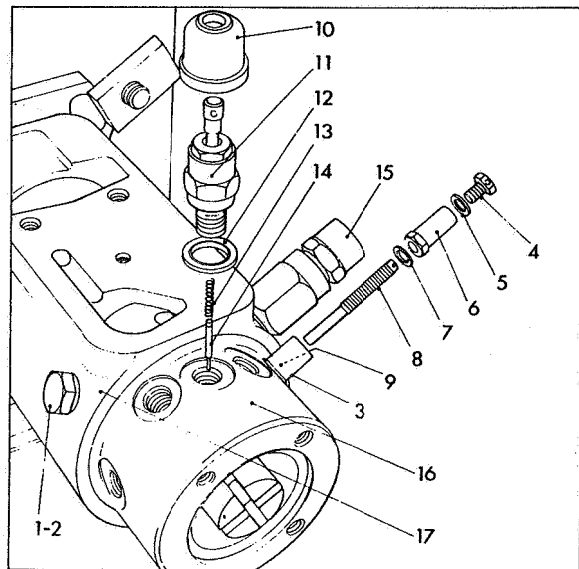

Fig 74 Dismantling shuttle valve assembly
Note location of, then unscrew and remove, the head locking screw and washer (1 & 2) Fig 74. Unscrew and remove from the shuttle valve body (3): shuttle plug screw (4), screw plug washer (5), shuttle tubular nut (6), tubular nut washer (7) and shuttle stop screw (8). The shuttle valve piston (9) can only be removed following extraction of the shuttle valve body.